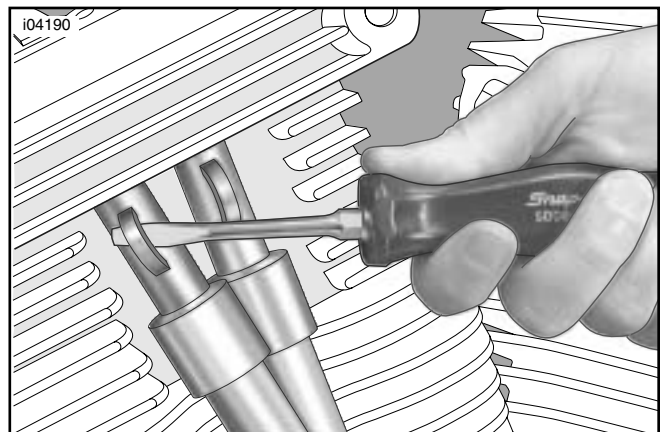

Figure 1. Pushrod Cover Removal
2. See Figure 1. Insert a screwdriver into the slot on the side of the spring-cap retainer on the pushrod cover.